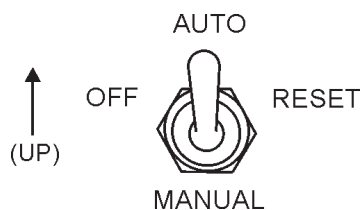

Figure 54. Off/Manual Auto Switch (AUTO)
4. Place the Off/Manual/Auto switch (Figure 54) in the **AUTO** position (up).